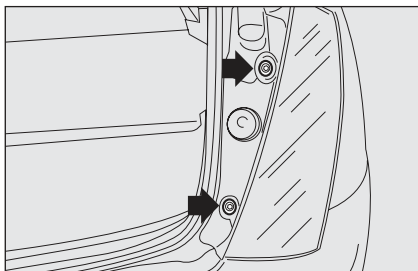

fig. 27
- loosen the two fastening screws and remove the light unit **fig. 27**;